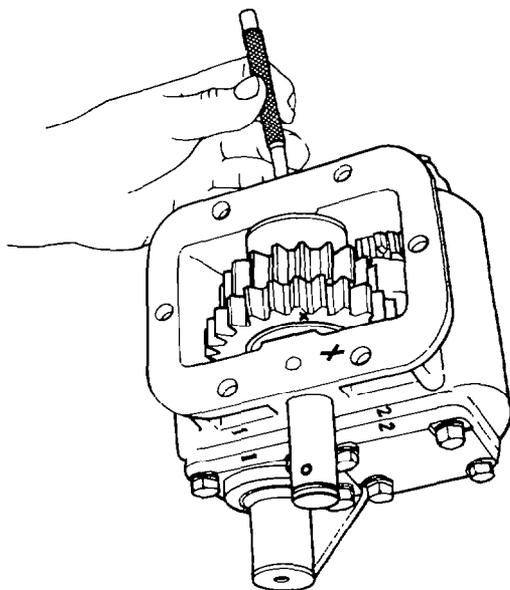

Fig. 398 — Removing Drive Gear Shaft
- b. Using a suitable drift and hammer, drive the shaft locating roll pin completely into the shaft, then remove the shaft from the housing by driving the shaft from the opposite end to the roll pin to avoid possible damage to the needle roller bearings (see fig. 398).